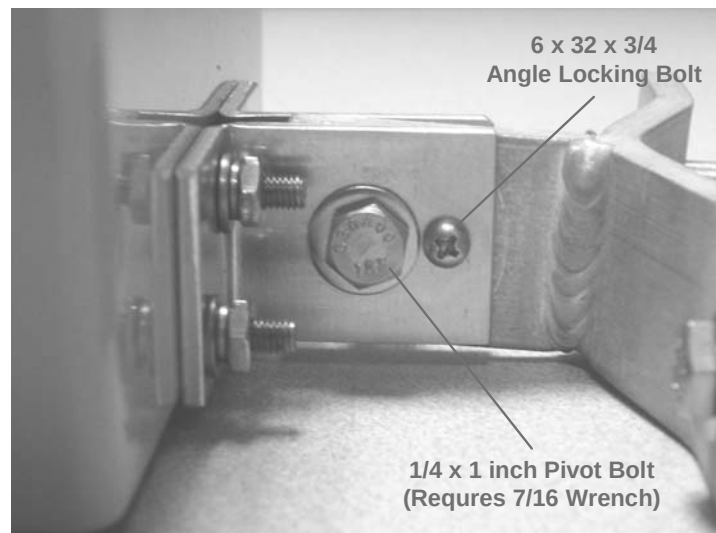

Figure 9. Bracket Adjustment Bolts
3. Adjust the position of the box so that the antenna will be in a vertical position. Tighten the pivot and angle locking bolts on the shaft of the bracket as shown in Figure 9.